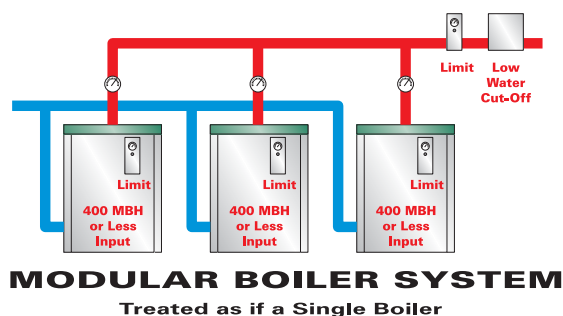

Figure 1.2: Modular Boiler System
2. On modular boiler systems, only one limit control is required on each module and one system limit control and low water cut-off are required (Figure 1.2).